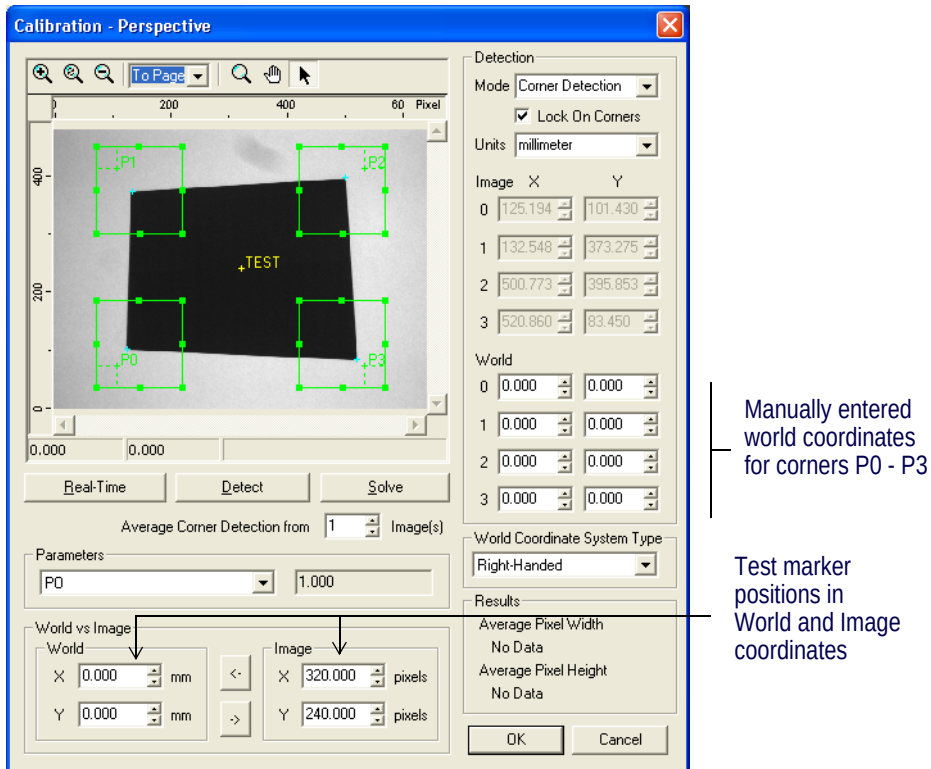
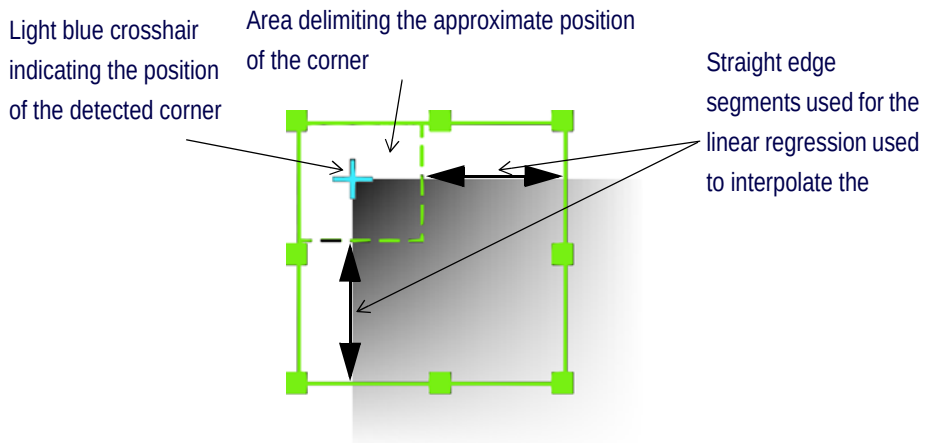

Figure 225 Perspective Calibration Dialog
Figure 226 Corner Detection Mode
2. Click **Show Calibration Dialog** to open the **Perspective Calibration**. See Figure 225.
The Corner Detection mode provides corner detection tools that can automatically locate corners on objects. These tools appear as four (4) green rectangles in the display, as shown in Figure 225. Figure 226 illustrates the positioning of the corner detection rectangles.